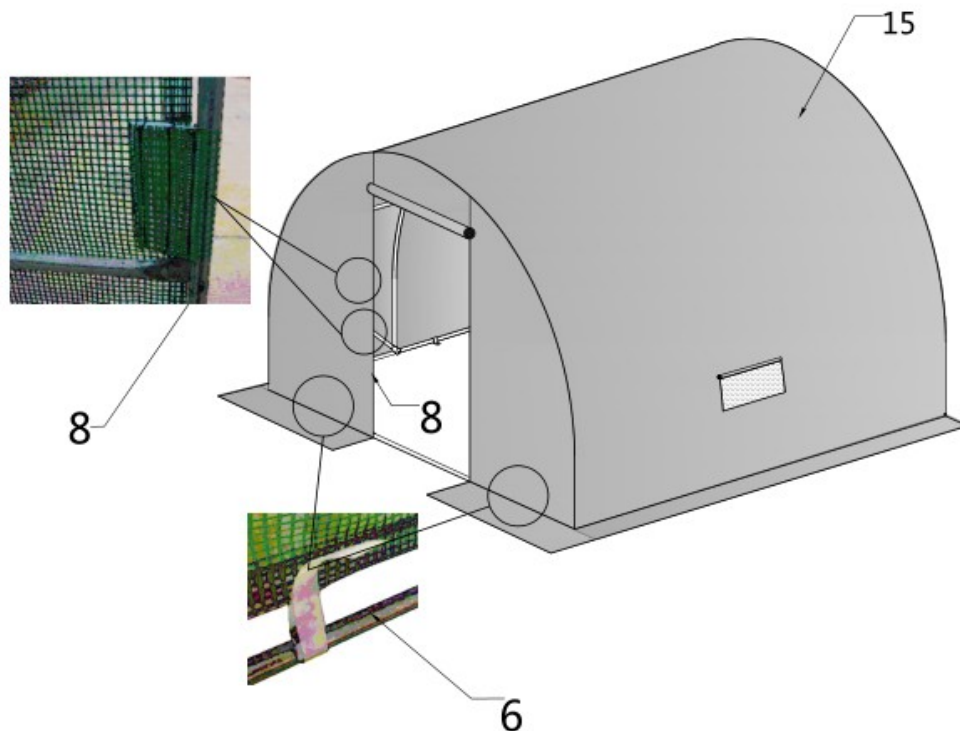

Figure 14
- Fasten the fabric front door. Use the Velcro on the fabric to tie the fabric tightly to the bottom tension bar (#6) at the lower part of the front truss door frame lower tube (#8) and door frame upper tube (#8A) .(refer to figure 14)